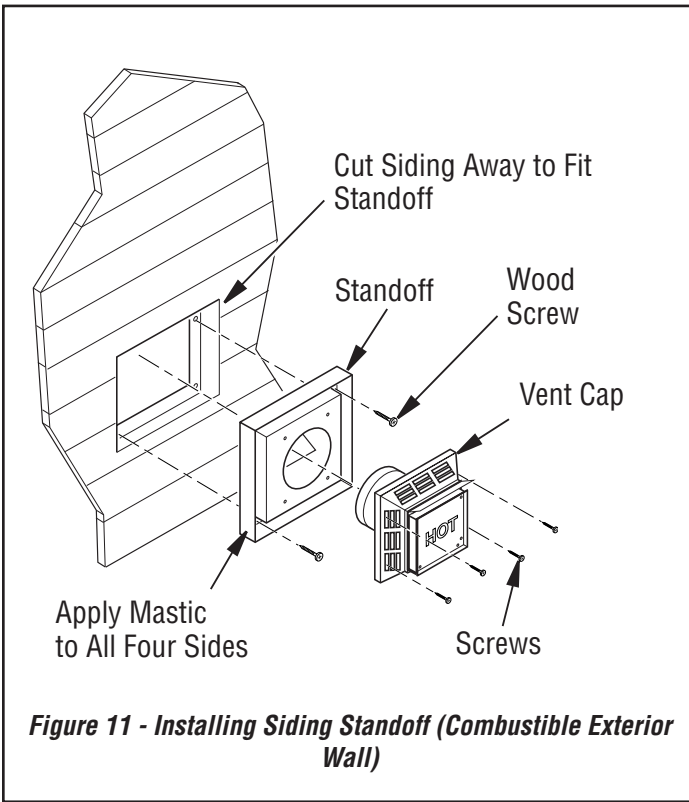

Figure 11 - Installing Siding Standoff (Combustible Exterior Wall)
1. Set fireplace in its desired location and determine the route your horizontal venting will take. Do not secure fireplace until all venting has been installed. Some installations require sliding fireplace in and out of position to make final venting connections. Figures 11 and 12 on page 21 show different configurations for venting with horizontal termination that will help you decide which application best suits your installation. Check to see if wall studs or roof rafters are in the path of your desired venting route. If they are, you may want to adjust location of fireplace.
Combustible Exterior Wall: For vinyl siding, stucco or wood exteriors, a siding standoff may be installed between vent cap and exterior wall. Siding standoff prevents excessive heat from damaging siding materials. Siding material must be cut to accommodate standoff. Bolt vent cap to standoff. Apply non-hardening mastic around outside edge of standoff. Position standoff/cap assembly in the center of 11 1/2" square hole and attach to exterior wall with provided wood screws (see **Figure 11**, page 21). Siding standoff must sit flush against exterior fascia material.